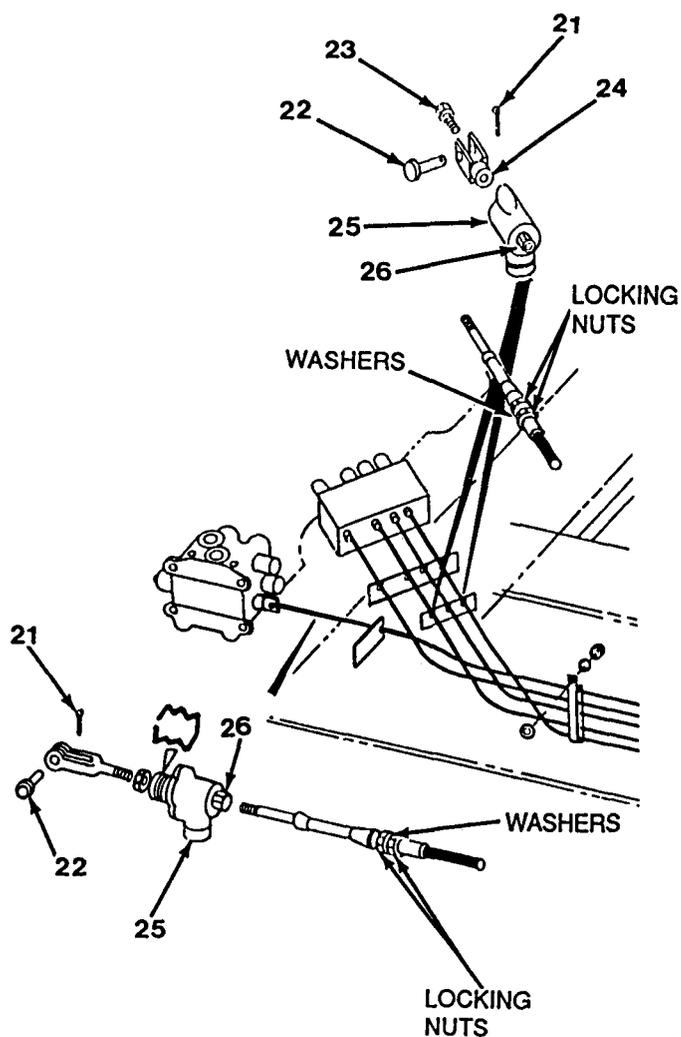

Figure 17-5
1. Adjustment on hoist, winch and telescope cables are made by installing disconnect assemblies (25) until they bottom on cable ends. Turn out two turns and tighten jam nuts (26, Figure 17-5).
2. Adjustment for hoist winch and telescope levers are made with electrical power disconnected. Push levers to full forward position (full rearward for winch). Adjust yoke (6) so that no movement to valve bank piston is made. Reposition locking nuts on cable if further adjustment is necessary.
3. Return levers to neutral position. Adjust yoke (6) on remaining levers in alignment with hoist and telescope levers.